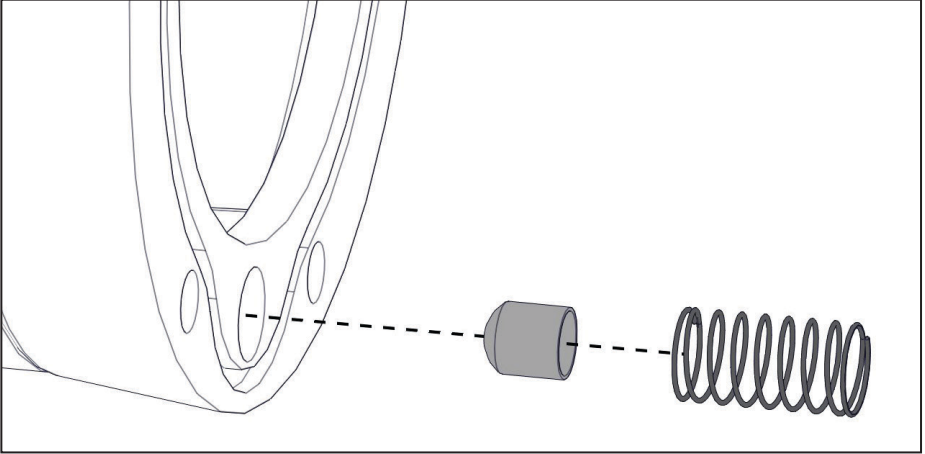

Figure 33 — Install scavenge screen and spring
- Install the new thimble screen and spring (Figure 33).